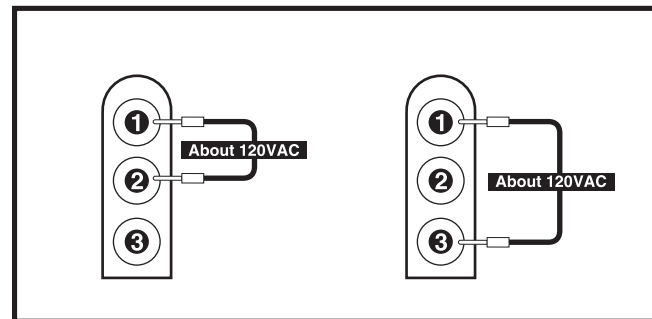

Figure 28. Connector 12a
19. Measure AC voltage across pin 1 and pin 3 and across pin 1 and pin 2 on connector 12a. **See figure 28.**